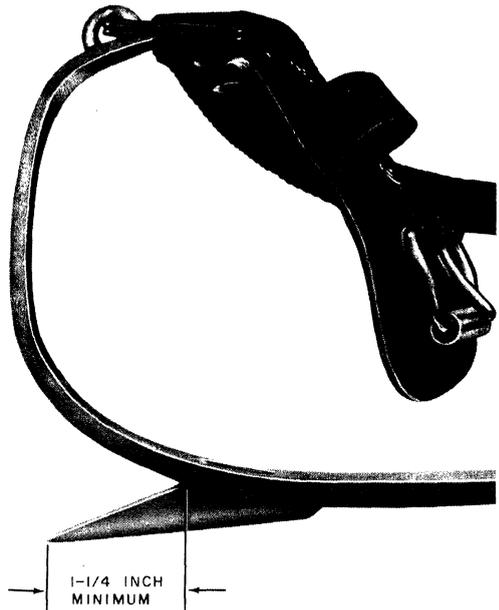

Fig. 21—Gaff Sharpened to Minimum Length
7.07 When climbers require sharpening and the desired sharpness to pass the cutout test cannot be obtained by honing (7.02 through 7.05), the employee should exchange them for a pair of factory sharpened climbers. Remove the E climber foot strap (2.10), the B climber straps (2.11), pads, and sleeves and equip the climbers to be returned with gaff guards. Permanently attached foot straps should remain on the returned climbers. The solid ring will then be replaced with a split ring. Tape or otherwise tie them together. Figure 21 illustrates a climber that has been machine sharpened a number of times to the *minimum length that shall be used*.